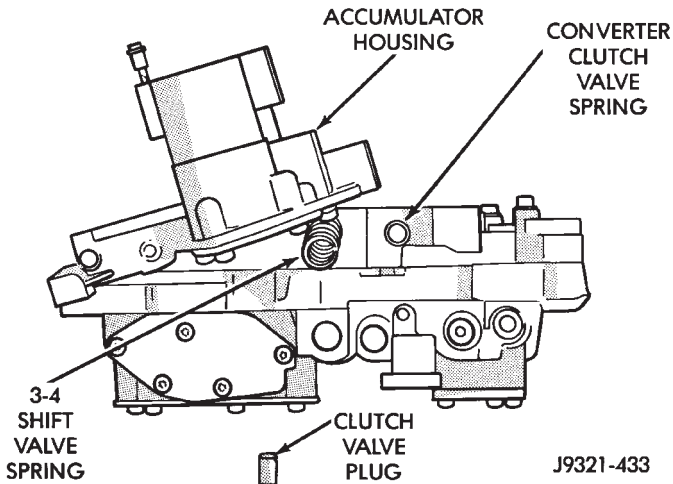

Fig. 63 3-4 Shift And Converter Clutch Valve Springs And Plug
(24) Carefully rotate 3-4 accumulator housing upward and remove 3-4 shift valve spring and converter clutch valve plug and spring (Fig. 63).